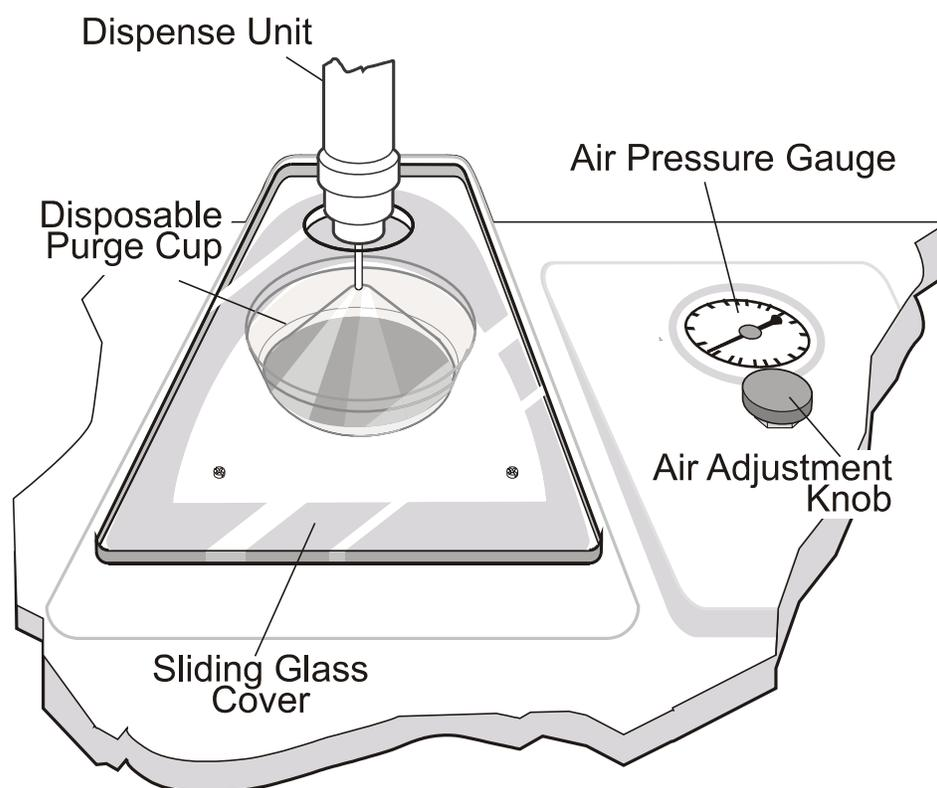

Figure 5
5. Select the **Trackball** button. Be sure the sliding glass cover is in the closed position. Using the trackball, move the dispense unit over the center of the hole in the sliding glass cover. Position the needle tip over the center of the hole. See Figure 5.